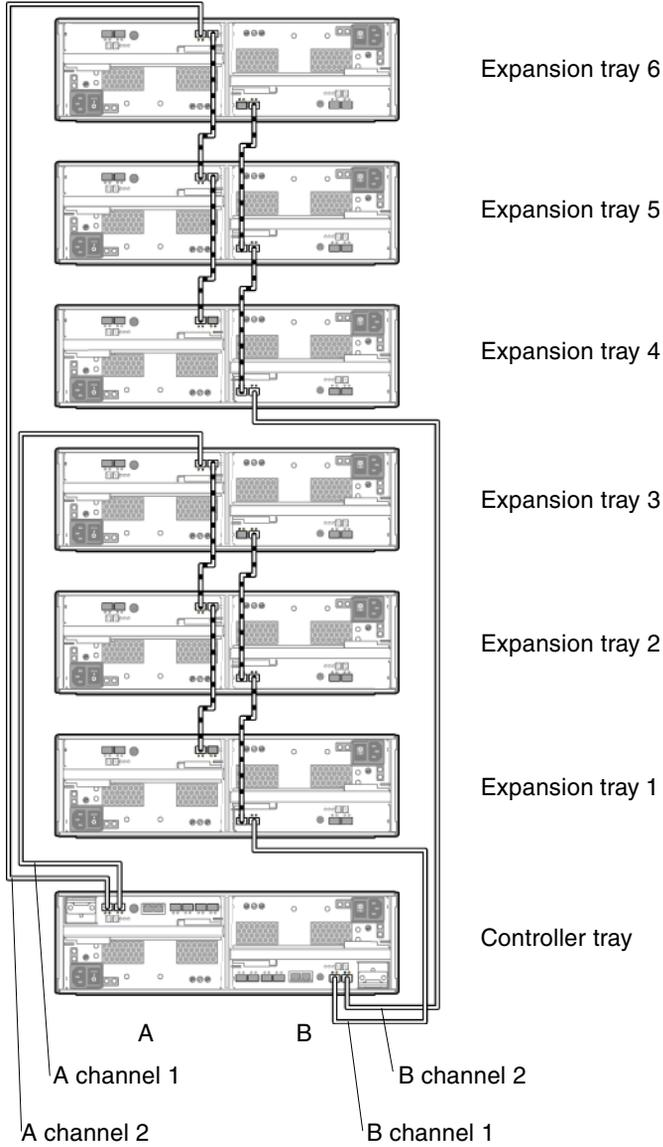

FIGURE 2-28 1x7 Array Configuration Cabling
3. Connect one FC cable between the Controller B channel 1 expansion port and the B-side expansion port 1B of expansion tray 1 (FIGURE 2-28).
4. Connect one FC cable between the B-side expansion port 1A of expansion tray 1 and the B-side expansion port 1B of expansion tray 2 (FIGURE 2-28).
5. Connect one FC cable between the B-side expansion port 1A of expansion tray 2 and the B-side expansion port 1B of expansion tray 3 (FIGURE 2-28).
6. Connect one FC cable between the Controller B channel 2 expansion port and the B-side expansion port 1B of expansion tray 4 (FIGURE 2-28).
7. Connect one FC cable between the B-side expansion port 1A of expansion tray 4 and the B-side expansion port 1B of expansion tray 5 (FIGURE 2-28).
8. Connect one FC cable between the B-side expansion port 1A of expansion tray 5 and the B-side expansion port 1B of expansion tray 6 (FIGURE 2-28).
9. Connect one FC cable between the Controller A channel 1 expansion port and the A-side expansion port 1B of expansion tray 3 (FIGURE 2-28).
10. Connect one FC cable between the A-side expansion port 1A of expansion tray 3 and the A-side expansion port 1B of expansion tray 2 (FIGURE 2-28).
11. Connect one FC cable between the A-side expansion port 1A of expansion tray 2 and the A-side expansion port 1B of expansion tray 1 (FIGURE 2-28).
12. Connect one FC cable between the Controller A channel 2 expansion port and the A-side expansion port 1B of expansion tray 6 (FIGURE 2-28).
13. Connect one FC cable between the A-side expansion port 1A of expansion tray 6 and the A-side expansion port 1B of expansion tray 5 (FIGURE 2-28).
14. Connect one FC cable between the A-side expansion port 1A of expansion tray 5 and the A-side expansion port 1B of expansion tray 4 (FIGURE 2-28).